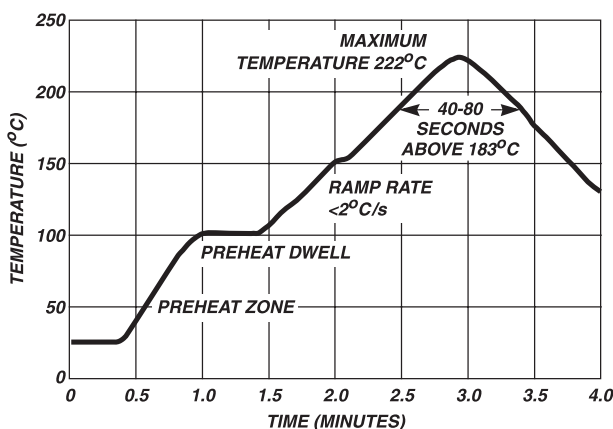

FIGURE 5. REFLOW SOLDER PROFILE
The principal techniques used for the soldering of components in surface mount technology are infrared (IR) re-flow, vapour phase re-flow and wave soldering. Typical profiles are shown in Figures 5, 6 and 7. When wave soldering, the MHS suppressor is attached to the circuit board by means of an adhesive. The assembly is then placed on a conveyor and run through the soldering process to contact the wave. With IR and vapour phase re-flow, the device is placed in a solder paste on a substrate. As the solder paste is heated, it re-flows and solders the unit to the board.